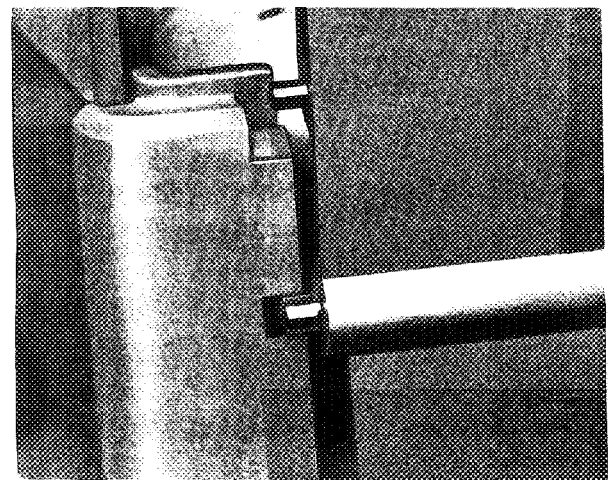

FIGURE 5.2 REMOVING BASSINET BACK PANEL
2. Remove the Bassinet Back Panel (Figure 5.2) by raising it straight up until the bottom pins are adjacent to the slots in the corner brackets.
3. Replace the Bassinet Back Panel by inserting the pins in the Corner Brackets (Figure 5.2).